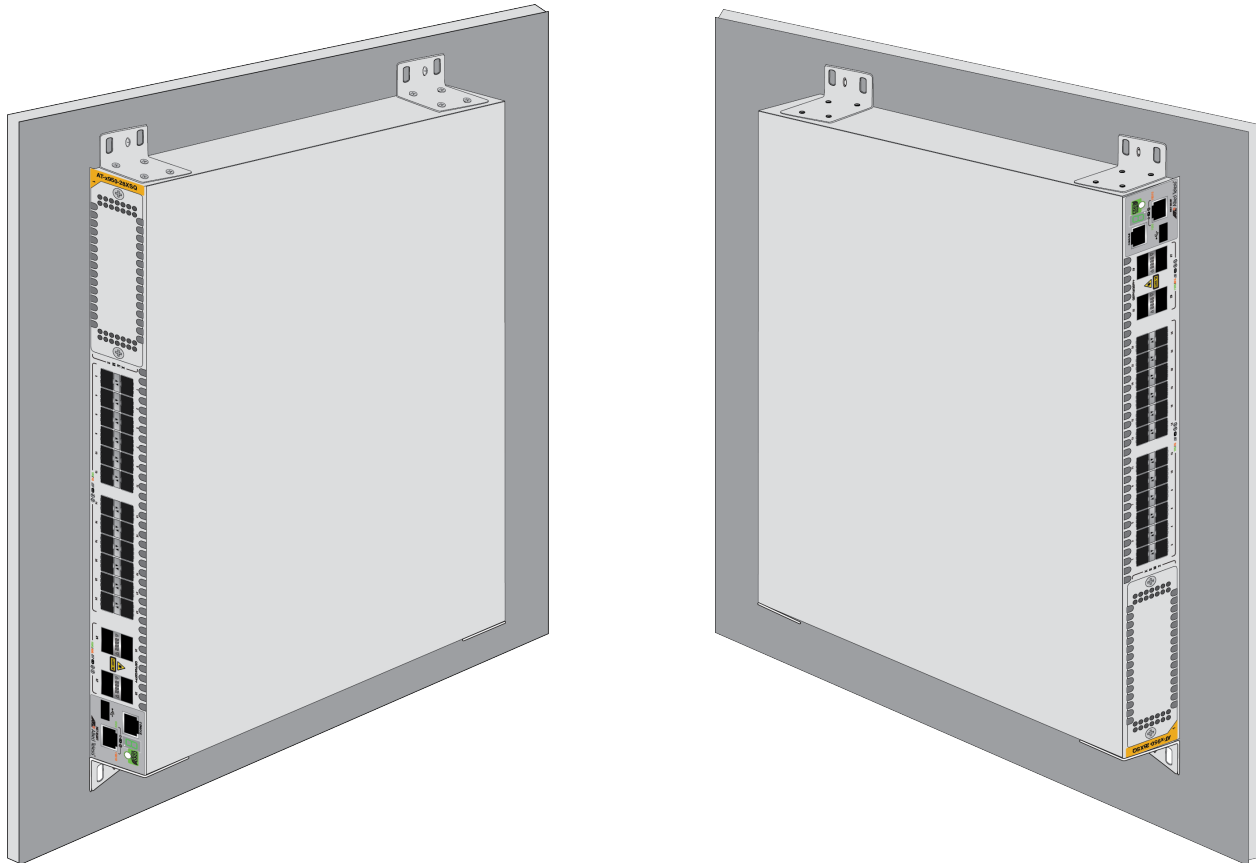

Figure 70. Positions of the Switch on the Wall
You can install the switch on a wall with the front panel on the left or right, as shown in Figure 70. Do not install it with the front panel on the top or bottom.
- ❑ Position the switch so that the front panel is either on the left or the right. Refer to Figure 70 on page 118. You may not install the switch with the front panel facing up or down.
- Position the switch so that the front panel is either on the left or the right. Refer to Figure 70 on page 118. You may not install the switch with the front panel facing up or down.